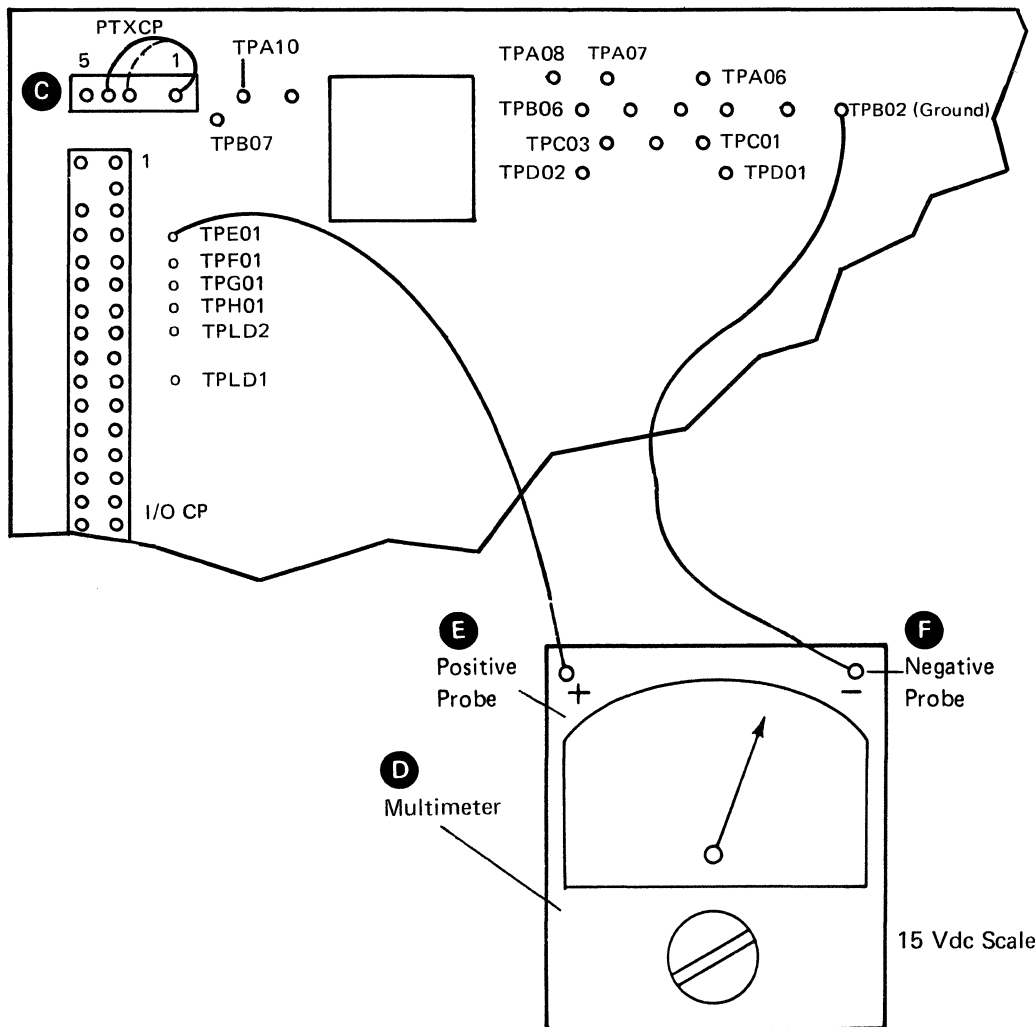

Figure E-38. PTX Amplifier Service Check
E.3.6.5 PTX Amplifier Service Check (Figure E-38)